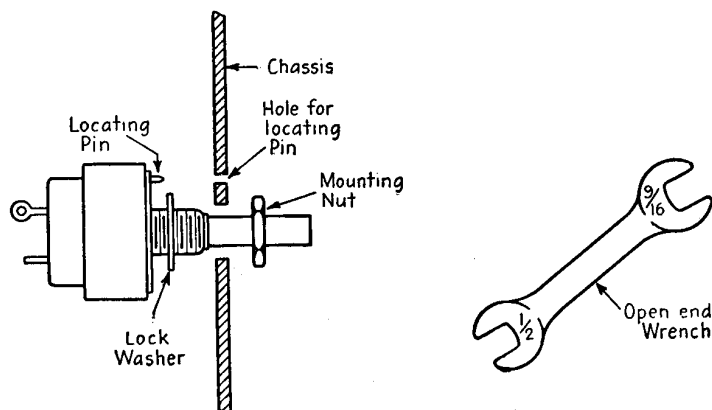

FIG. 11-15.—Mounting the volume control.
5. Slip the replacement control through the chassis hole, using a lock washer or locating pin, as shown in Fig. 11-15. If there is no